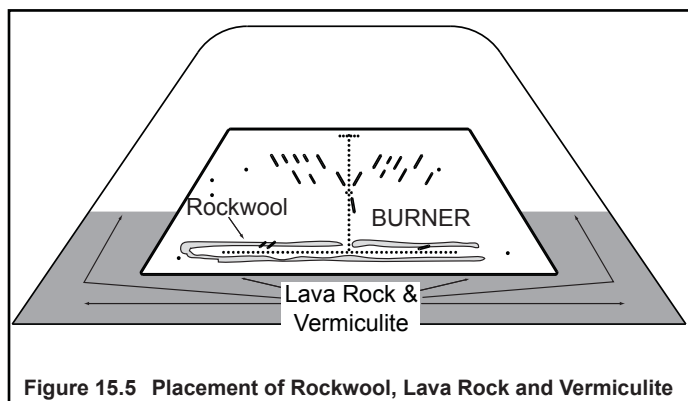

Figure 15.5 Placement of Rockwool, Lava Rock and Vermiculite
- Place a small amount of 1/2 in. diameter pieces (dime-size) rockwool on the burner pan so that the rockwool touches, but does not cover, the holes in the burner pan (refer to Figure 15.5). This will provide the “glowing embers” look.
Place the lava rock in an even layer just heavy enough to cover the metal surface. Stay within the zone indicated in Figure 15.5. It is not necessary to use the entire bag. Save the remaining amount for future use.